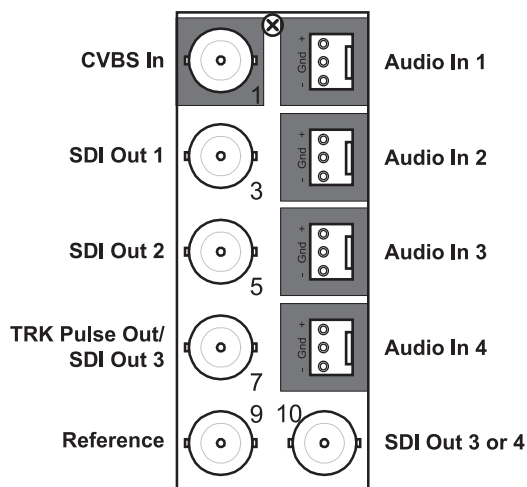

Figure 2.4 Cable Connections for the 8310AR-037 and 8320AR-037
- **8310AR-037** Rear Module — Each rear module occupies one slot and accommodates one card. This rear module provides four audio inputs, three SDI outputs, one tracking pulse output, and a reference output. (Figure 2.4)
- **8320AR-037** Full Rear Module — Each rear module occupies two slots and accommodates one card. This rear module provides four audio inputs, three SDI outputs, one tracking pulse output, and a reference output. (Figure 2.4)
The 8310AR-037 and 8320AR-037 Rear Modules provide four audio terminal blocks with removable connectors for Audio In 1, 2, 3, and 4 (refer to **Figure 2.4** for cable designations). Note that each connector has locations for the positive, negative, and grounded wires of a balanced analog audio cable.